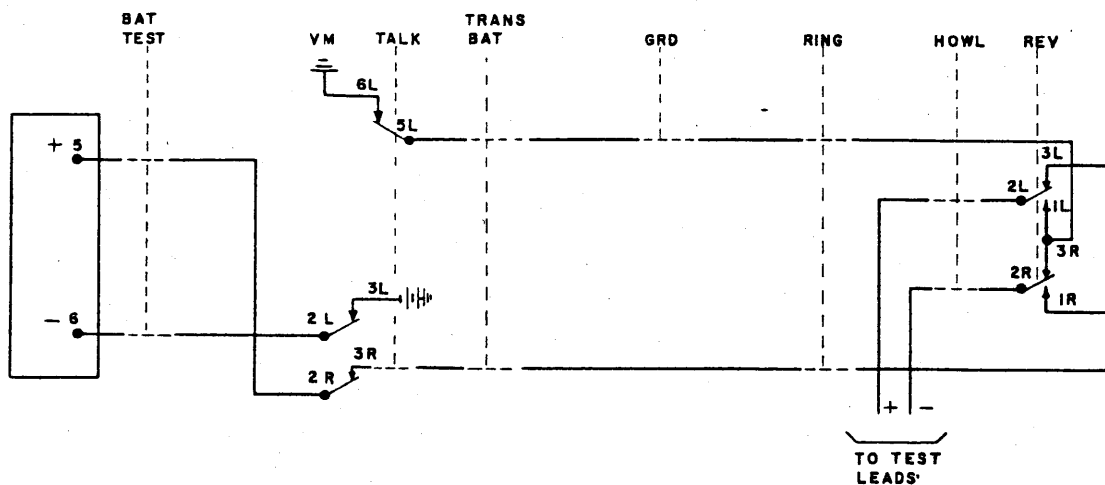

Figure 9. Test for open line.
3.4.4 Test for open (using ringer capacitance). Refer to figure 9. Operate the OUT key and the VM key. Operate the REV key and observe the meter deflection. Restore the REV key and if the line is not open there should be a meter deflection.
4.7.5 Test for open (ringer capacitor or line). Figure 9 illustrates this test. The +and - lines will enter the circuit at break contacts of the HOWL key and go through make contacts 2L & 3L, and 2R & 3R, of the REV key, operated. The +line will go to the voltmeter circuit through make contacts of the VM key 2R & 3R, operated, to the +terminal of the voltmeter. The -line will pass through the test circuit to the voltmeter circuit and go through contacts 5L & 6L of the VM key to ground. The VM key, operated, will send battery to the -terminal of the voltmeter. The ringer capacitor will charge over the loop. When the REV key is restored the capacitor will discharge because of the reversal of the + and - lines. There should be a deflection of the voltmeter needle. If there is no deflection, the capacitor or line is open.